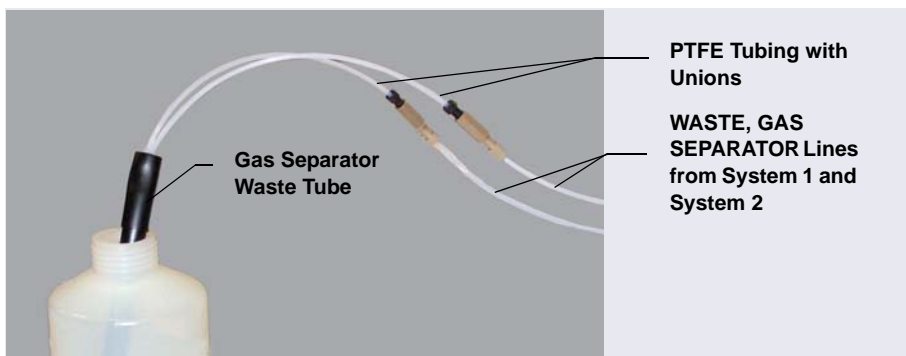

Figure 4-34. Gas Separator Waste Tube Installation
3. Make sure the junction of the white PTFE tubing and the black polyethylene tubing is above the top of the container and that the gas separator waste tube and the waste container are open to the atmosphere (see Figure 4-34).
4. Connect the **WASTE, GAS SEPARATOR** line from the suppressor or EG to one of the lengths of 3 mm (1/8 in) ID white PTFE tubing on the gas separator waste tube assembly (see Figure 4-34).
DO NOT CAP THE WASTE CONTAINER: The Dionex ICS-6000 Eluent Generator (EG) and the electrolytic suppressors use an electrolytic process that results in the production of small amounts of oxygen or hydrogen gas. To ensure that the gas is not trapped in a closed container and allowed to concentrate, install a 1.3 cm (0.52 in) ID black gas separator waste tube (P/N 045460) in an uncapped waste container. Connect the **WASTE, GAS SEPARATOR** line to the waste tube (see Figure 4-34).